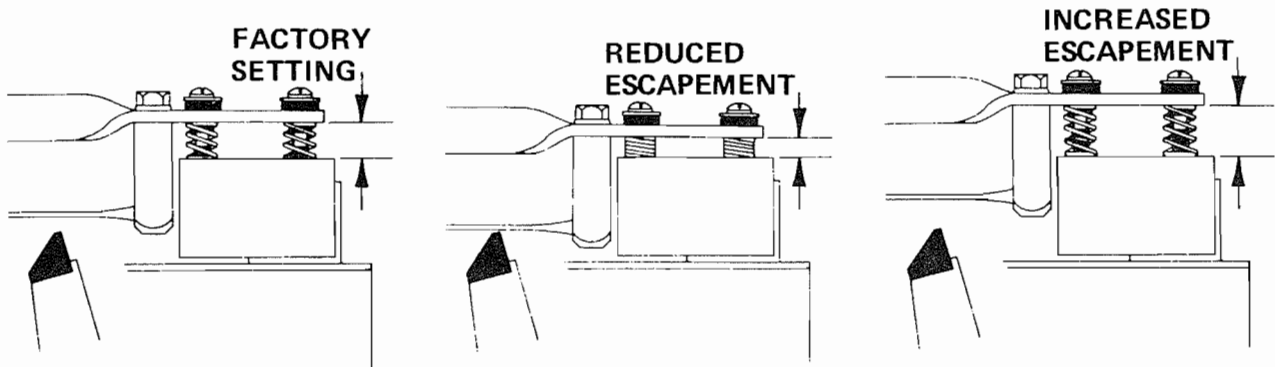

Figure 4-4. Adjustment Location 1
- a. Each of the Tone Bar Assemblies is separated from the Tone Bar Rail by two adjustable coil Springs. By means of these, the height of each Tone Bar Assembly can be raised to 1/2" (12.700mm) or lowered to 3/16" (4.762mm) – factory setting is 3/8" (9.525mm). From Figure 4-4 it can be observed that this adjustment increases or decreases the Escapement Distance.